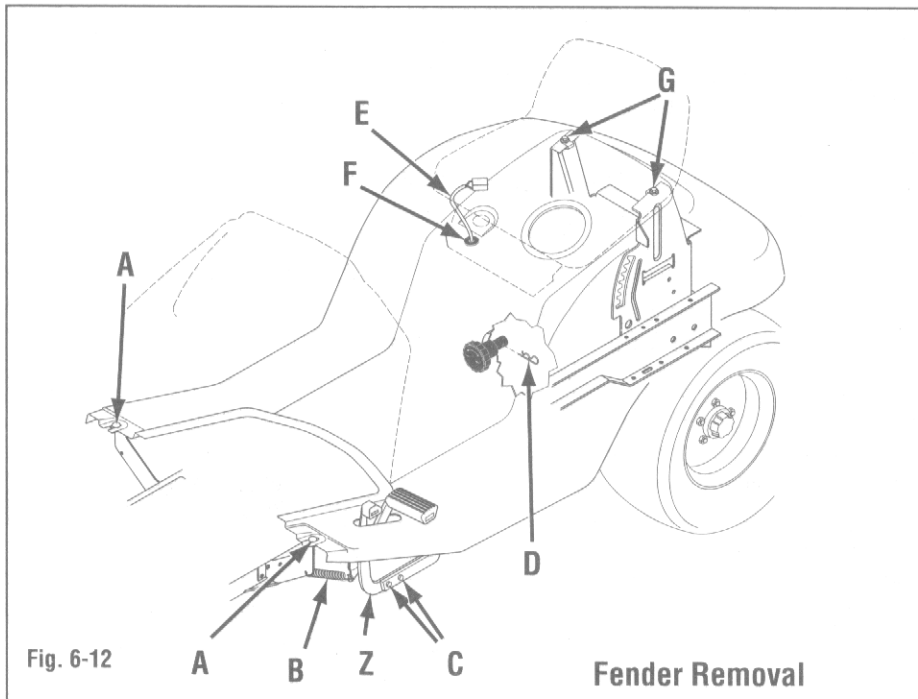

Fig. 6-12
- Remove bolts, spacers and nuts retaining two front edges of fender to frame (A, Fig. 6-12).
- Unhook brake lock return spring (B).
- Remove bolts and nuts (C) securing brake pedal assembly to brake arm.
Install fender by reversing removal sequence. Re-assemble with brake pedal assembly (Z, Fig. 6-12) to outside of brake arm. Tighten all hardware (C) securely.